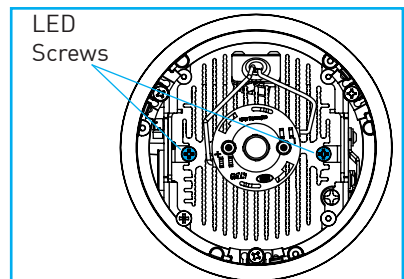

Fig.65
- Using a standard #2 Phillips-head screwdriver, remove 2 screws from LED assembly to detach from mounting surface. (Fig.65)